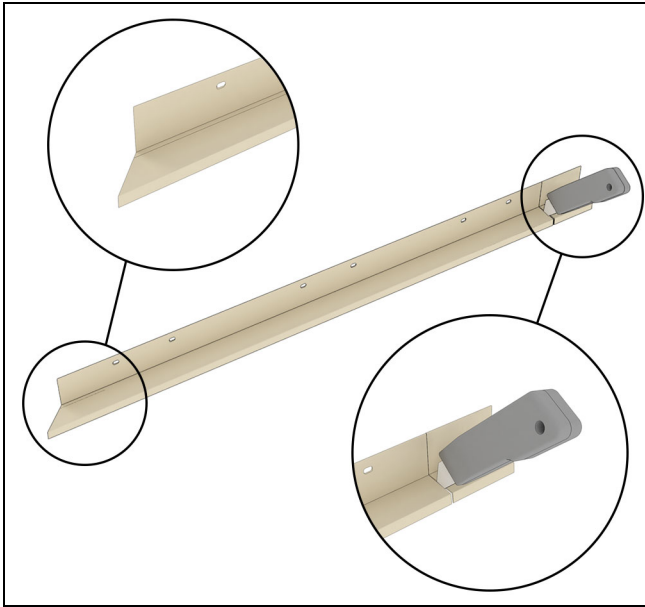

Figure 53
1. Measure and cut the drip cap nail fin to length. The drip cap miter is precut on one end. See Figure 53.